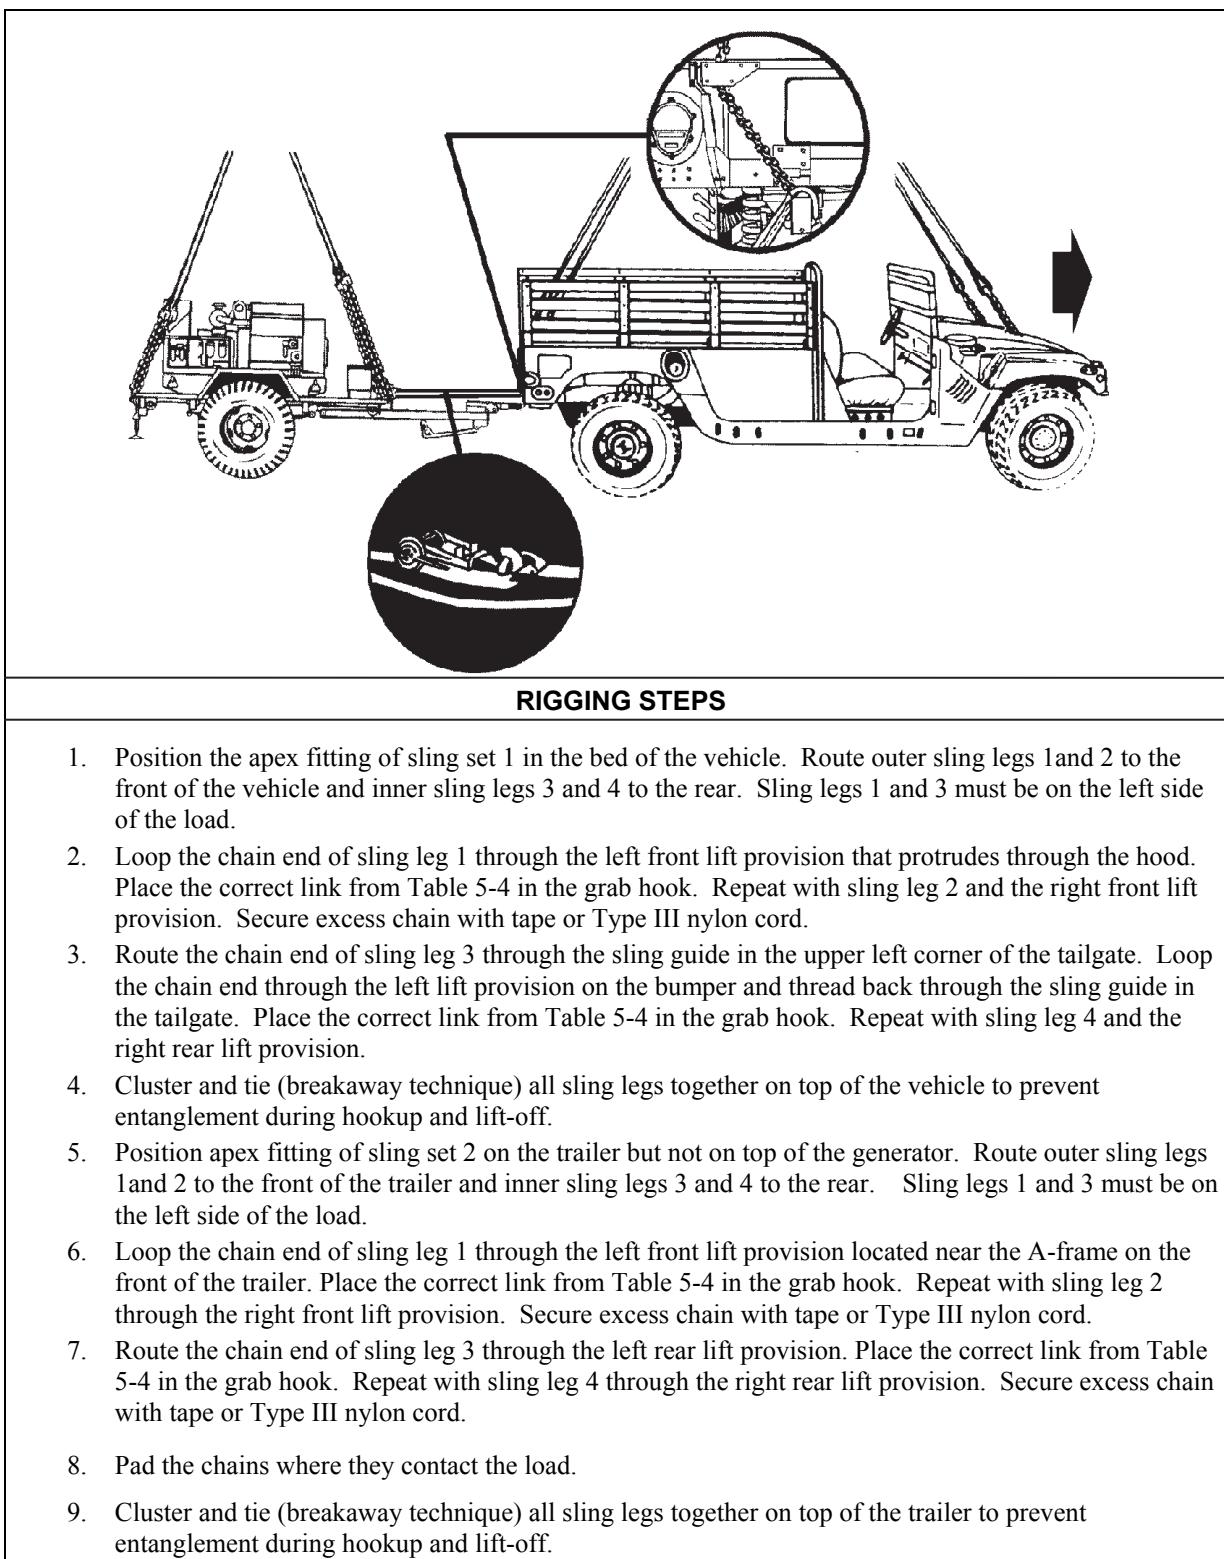

Figure 5-4. M998/M1038 Truck, Utility, 1-1/4 Ton and G-85/TPQ-36 (V)7 Generator Group
- **Rigging.** Rig the load according to the steps in Figure 5-4.